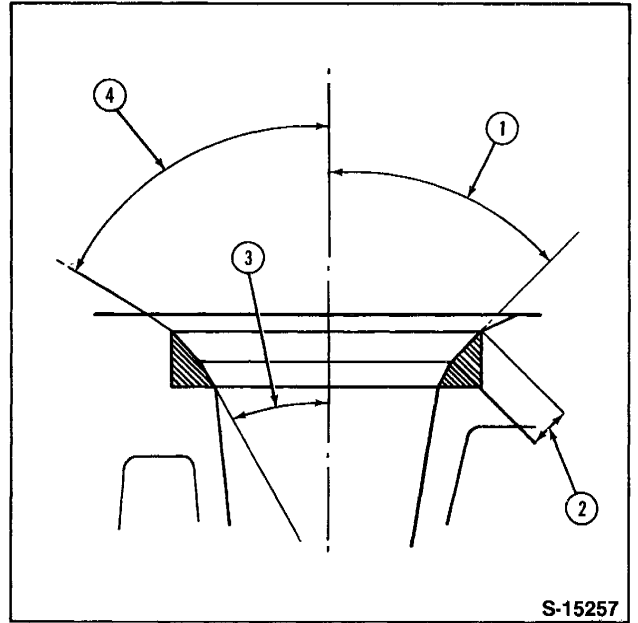

Figure 13
- Check the width of the valve seat faces and, if necessary, reface by grinding to the dimensions shown in Figure 13.